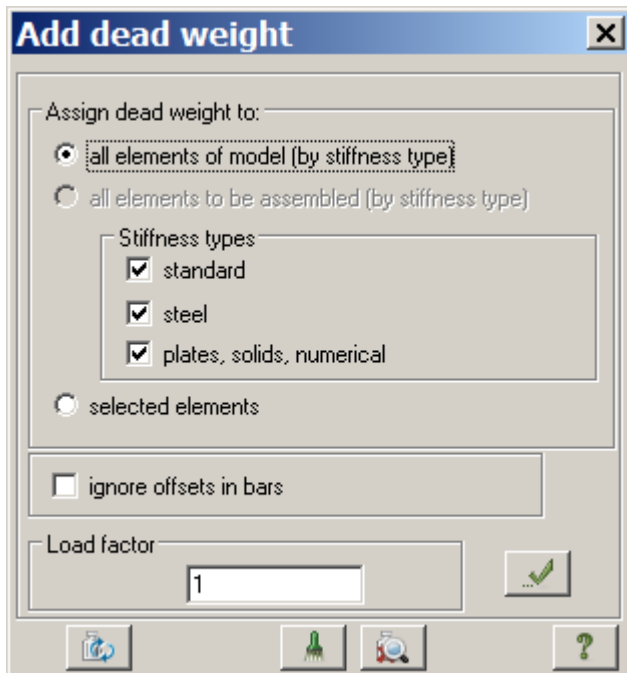

Figure 11.16 **Add dead weight** dialog box
- ⇒ In the **Add dead weight** dialog box (see Figure 11.16), click **All elements** and specify **Load factor** as equal to 1. Then click **Apply**  (dead weight of elements is added).